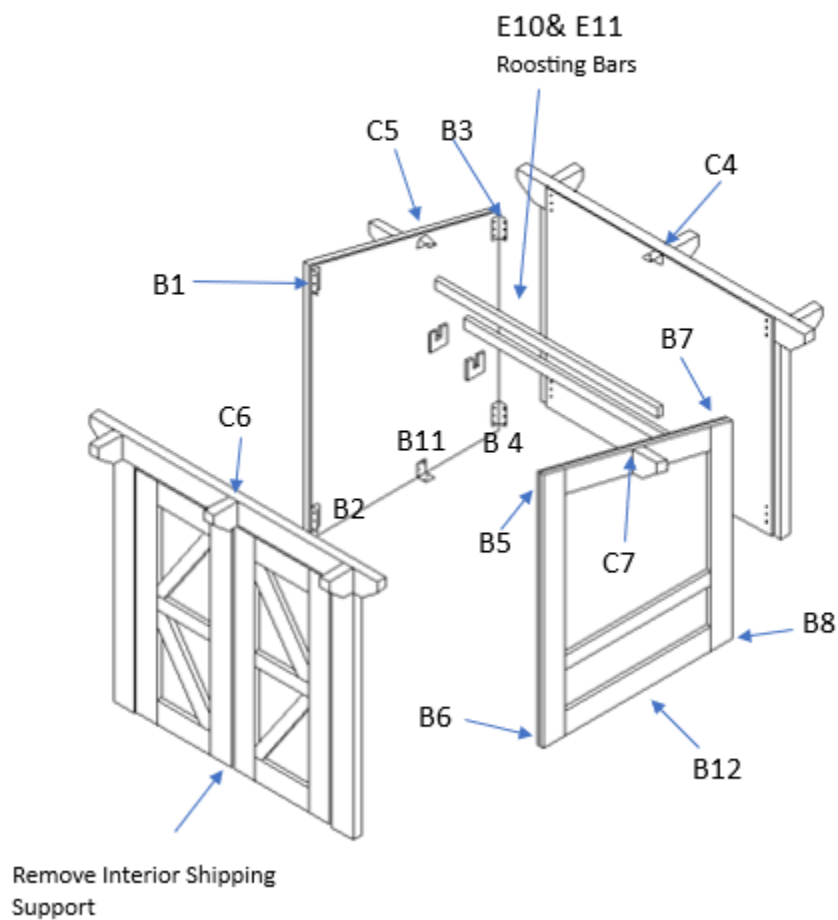

Figure 1.3
(see figure 1.3)
Step 4.) Place the back wall of the coop on top of the rear base enclosure panel and have someone hold it in place. Then lift the left side wall in place while standing inside the base enclosure. Attach it to the back wall using the metal corner brackets B3- B4 using the 1" pan head screws provided. Repeat this process for the right side wall B7-B8 (See figure 1.3)
Step 9.) Team lift the roof panel into place ensuring that it is centered on top of the coop. Now attach the roof panel from the inside of the coop using the metal "L" brackets (C4,C5,C6,and C7) using the $\frac{1}{2}$ " pan head screws provided. Refer to Figure 1.3 above for location.